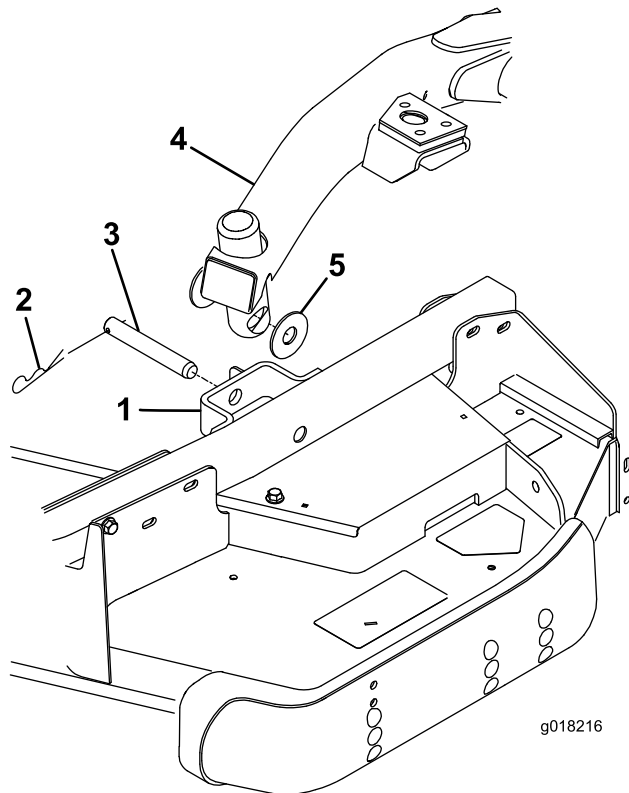

Figure 26
4. Press the lift switch forward to the FLOAT position. Push a lift arm down until the holes in the lift arm line up with the holes in the castor arm bracket and you can insert the height-of-cut rod into the lift arm pads (Figure 26).
5. Secure the lift arm to the castor arm with 2 thrust washers, a clevis pin, and a hairpin cotter, position the thrust washers between the lift arm and the castor arm bracket (Figure 26), and insert end of cotter pin into the slot in the castor arm tab to retain cotter pin.